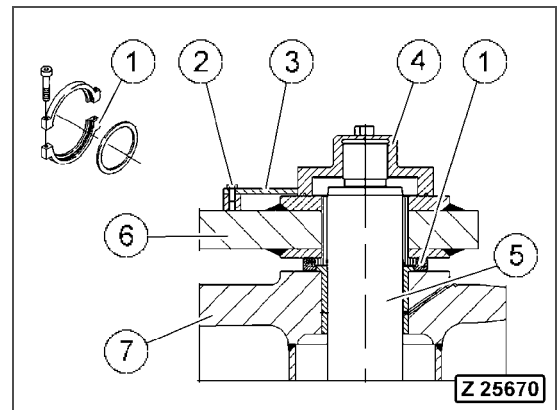

Fig. 5-58
- (9) Moving rod
- (10) Cylinder body
- (11) Bolt
- (12) Shackle
- (13) Pin
- (14) Seal
- (15) Pipe
- (16) Seal
- (17) Seal
- (18) Bush
- Remove the seal fixing rings (Fig. 5-58, Pos. 1) located on both sides between the steering rod (Fig. 5-58, Pos. 6) and the stick (Fig. 5-58, Pos. 7).
- Remove the bolt (Fig. 5-58, Pos. 2) and undo the lock (Fig. 5-58, Pos. 3)
- Remove the nut-cap (Fig. 5-58, Pos. 4) from the pin (Fig. 5-58, Pos. 5), then fit the "Thread Protector" PN 409 329 40.
- Pull the pin (Fig. 5-58, Pos. 5 / Fig. 5-56, Pos. 4) out completely to clear both steering rods or if removing the right-hand steering rod only, pull the pin out just enough to clear the right-hand steering rod.
NOTE: Pull the pin (Fig. 5-58, Pos. 5) out using two puller bolts at threaded holes (Fig. 5-59, Pos. 1).